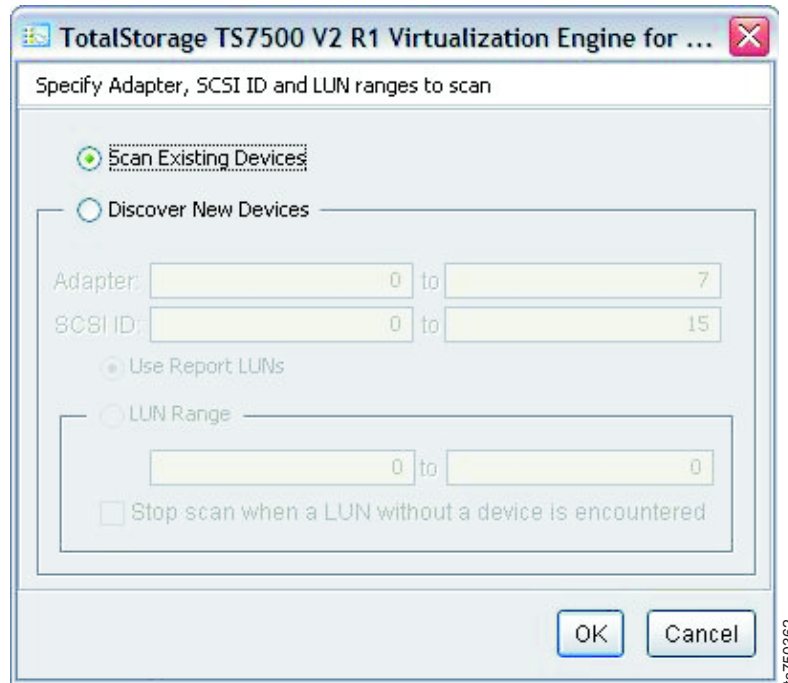

Figure 58. Scan existing devices
- ___ c. In the Specify Adapter, SCSI ID and LUN ranges to scan window (Figure 58), select **Scan Existing Devices**, then click **OK**.